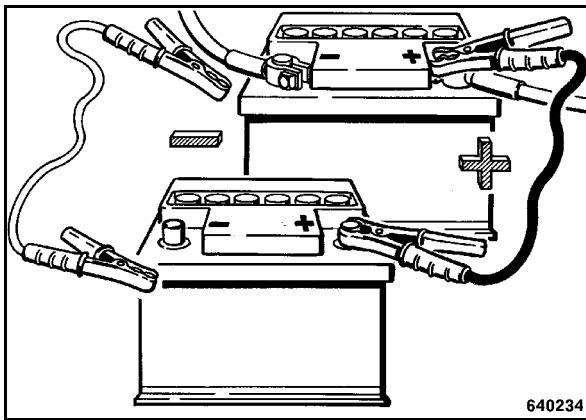

Fig. 36
- When starting with an external battery connect the plus poles (Fig. 36) first and the minus poles (ground cable) after.